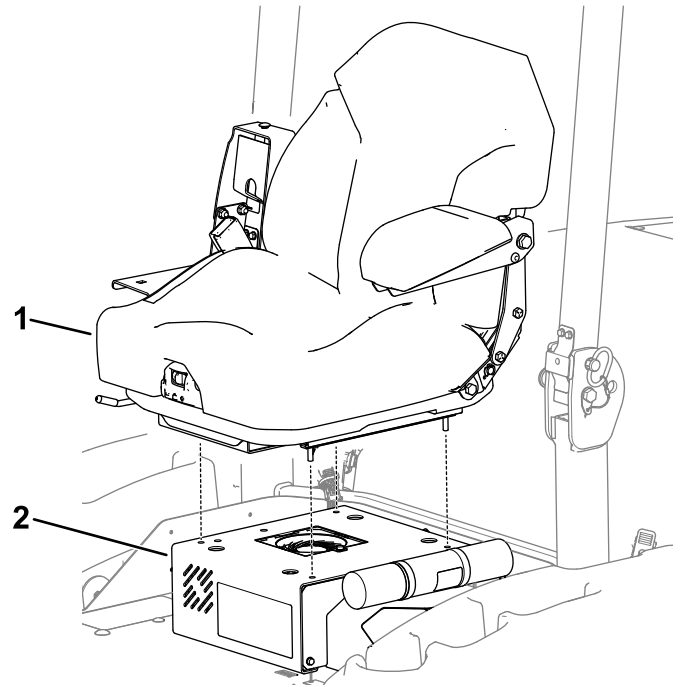

Figure 5
- Groundsmaster e3200 or e3300 machines shown in Figure 5